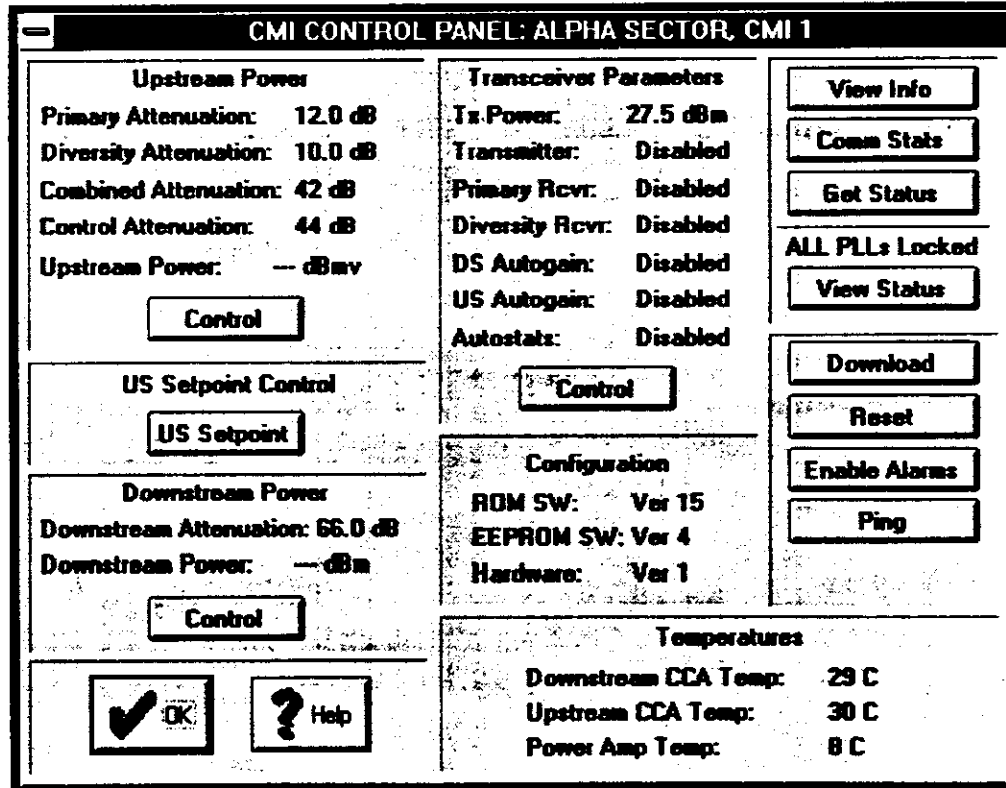

Figure 3-19. Typical CMI CONTROL PANEL Dialog
- c. At HIC CONTROL PANEL dialog, double-click on icon of CMI to be measured; CMI CONTROL PANEL dialog appears (Figure 3-19).